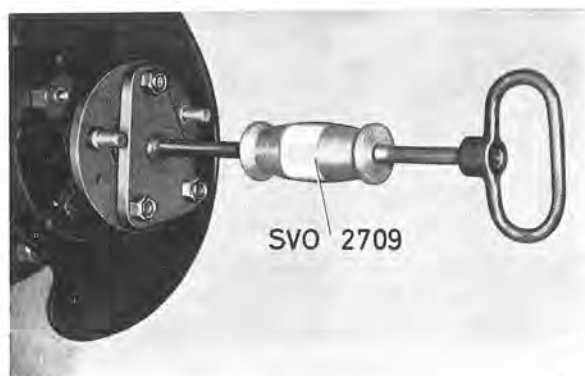

Fig. 4-137. Removing drive shaft
3. Slacken the bolts for the thrust washer. These are slackened through the holes in the drive shaft flange. Pull out the drive shaft with puller 2709, see Fig. 4-137.
2. Release the bolts for the brake backing plates and brake shoe retainers. They are slackened through the holes in the drive shaft flanges. Pull out the drive shafts with puller 2709, see Fig. 4-137.